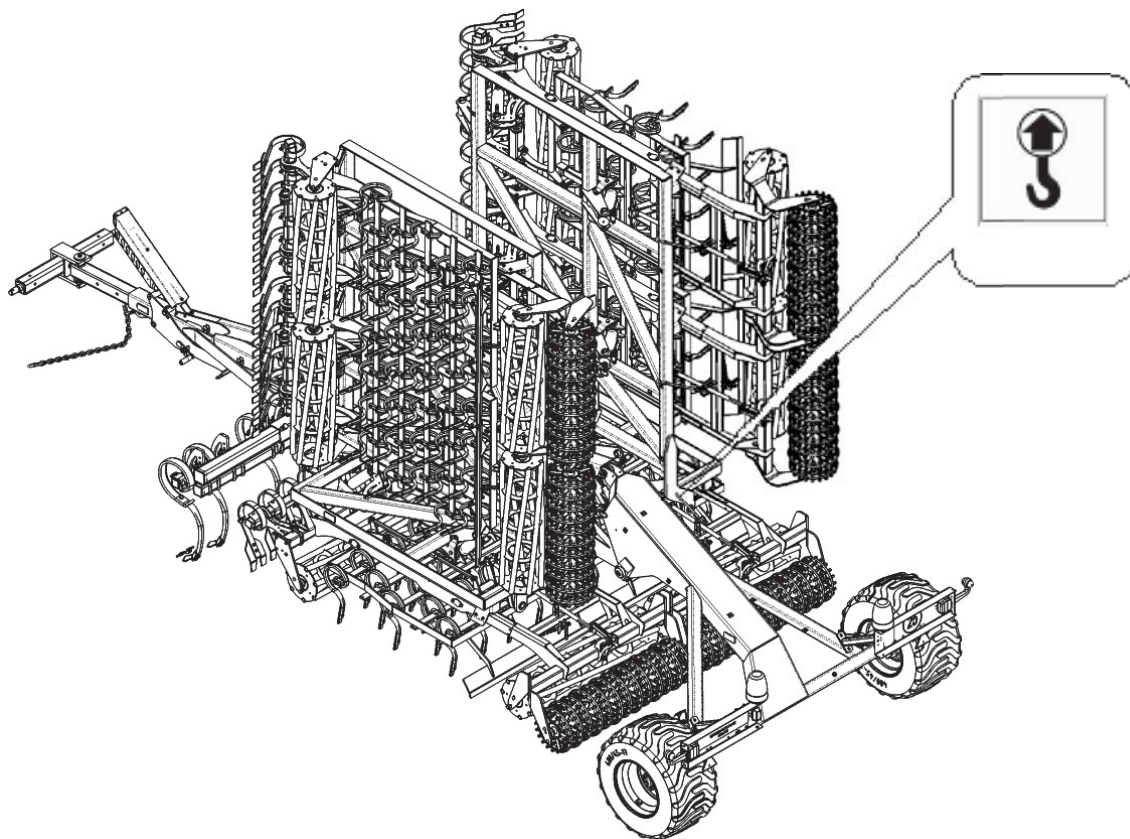

Fig. 3 The unit's lifting points for crane lifting operations
- Place the transport belts in spots marked with applicable labels (Fig. 3).
- The correct method of lifting the machine is presented in (Fig. 3).